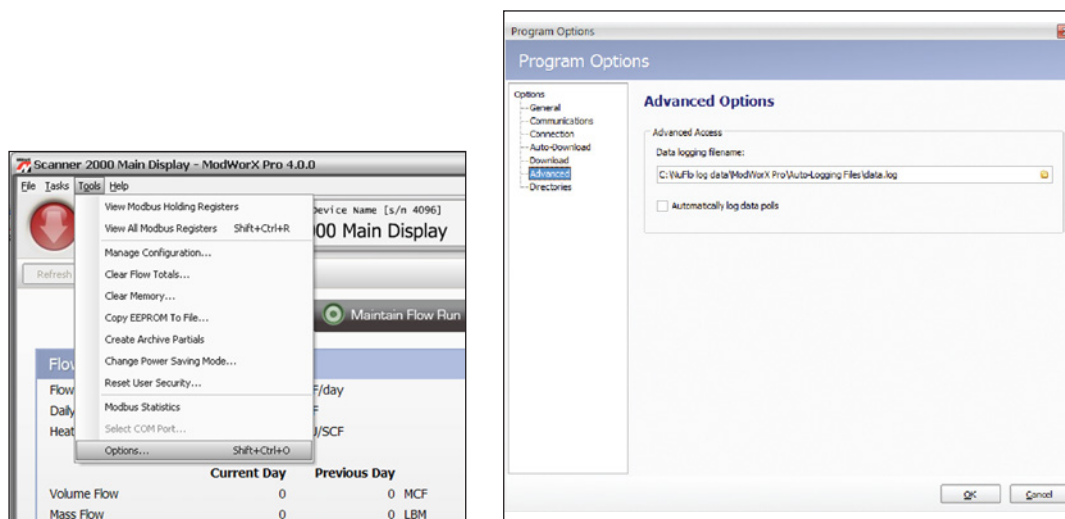

Figure A.23
1. Click **Tools>Options** in the task bar (Figure A.23, page A-22).